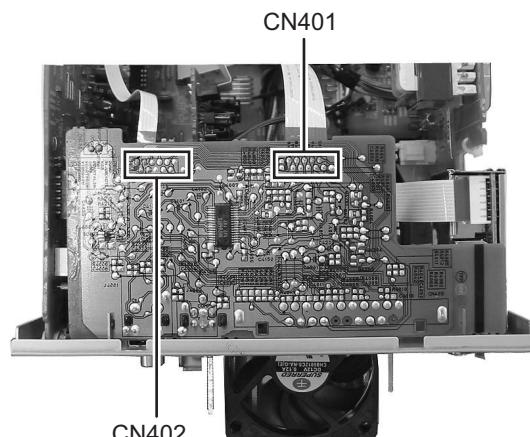

Fig.7
(Fig.7, 8)
- (1) Disconnect the card wire from the connector CN401 and CN402 on the video board. (See Fig.7)